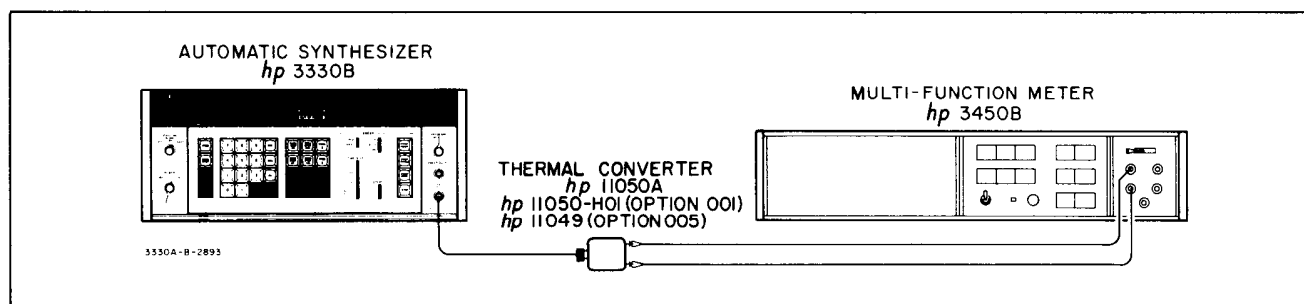

Figure 5-5. Frequency Response.
a. Connect the equipment as shown in Figure 5-5. Be sure to use the correct thermal converter.